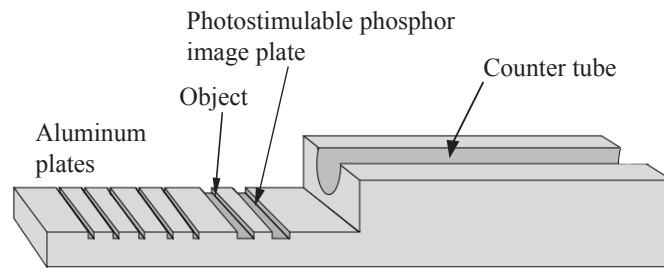

Figure 5.2.2: Holder for the experiments to the attenuation law (counter tube and aluminum plates are used in the next part.)
- Place the test object into the holder (Fig. 5.2.2) and the plate behind the object, such that the light blue or white side of the plate looks towards the object. 1
- The X-ray image is to be recorded with an anode voltage of **17 kV** and an emission current of **1 mA**. Adjust the values with the elements U (2) and I (3), and the adjusting wheel (1).
- Adjust the element  $\Delta t$  (4) and the wheel (1) to an exposure time of **25 seconds**.
- The recording is started with the element **SCAN** (8) (NOT with the element HV!).